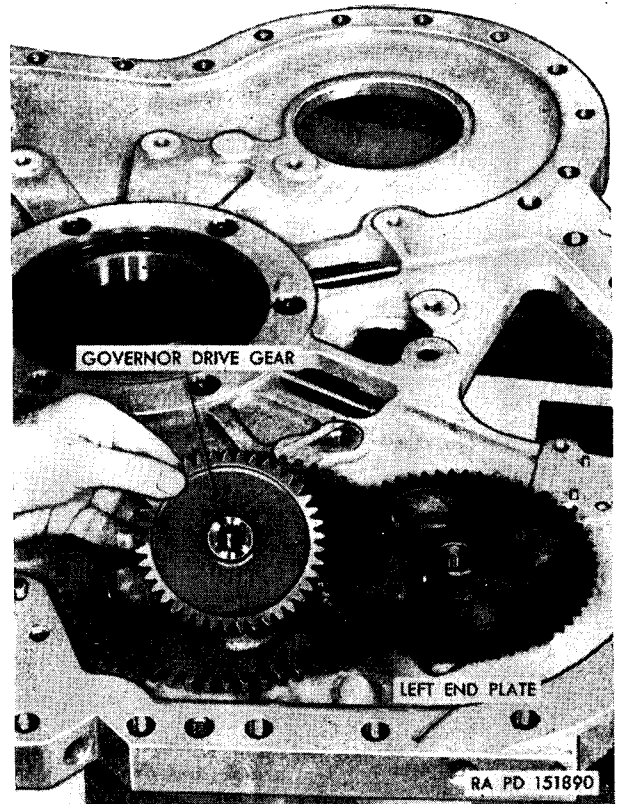

Figure 151. Removing or installing governor drive gear.
c. Using a $\frac{5}{8}$ -inch wrench, remove the self-locking nut that secures the output-brake and pressure-pump shaft to the pump and governor drive gear. Lift the governor drive gear from the splined pump-drive shaft (fig. 151). Using a $\frac{1}{2}$ -inch wrench, remove the three bolts from the governor-driven-gear bearing retainer. Using a screwdriver and a small block of wood, pry the governor-driven gear and bearing assembly out of the cage in the end plate (fig. 152).